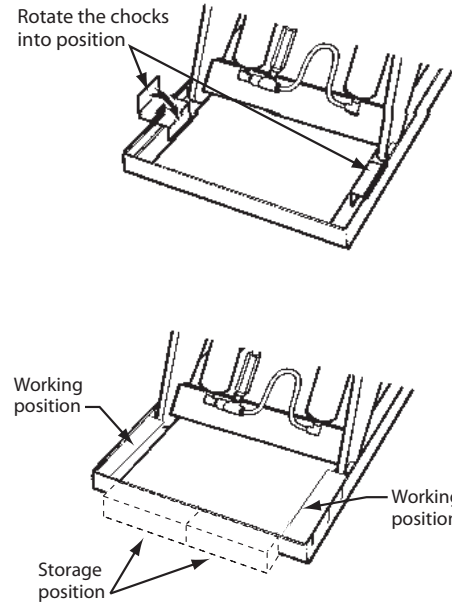

Figure 1 – Safe Servicing of Lift
3. Remove the maintenance device(s) from its/their storage location and place it/them into the engaged position as shown in Figure 1. (Note: further information may be useful here to provide additional instructions as to the location and method of storage and engaged positions).
Raise and chock the lift, as shown in Figure 1.
When adjusting the flow control, always raise the lift table and insert the maintenance chocks, as shown in Figure 1. Do not try to adjust the flow control while pressing the “down” button. If you
- **Raise the lift table and insert the maintenance chocks**, as shown in Figure 1.
- Every time you want to change the adjustment again, raise the table again and insert the maintenance chocks as shown in Figure 1.